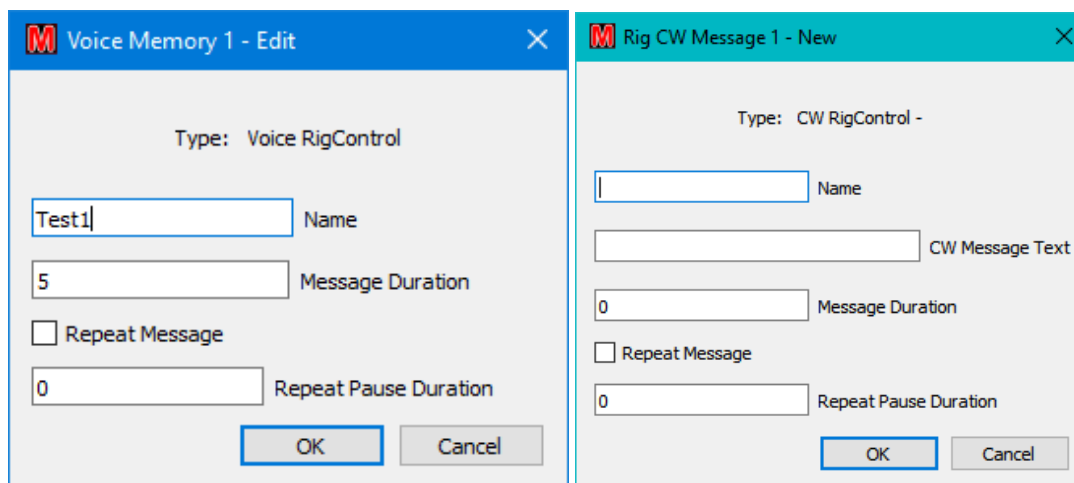

Figure 131 – Setup for RigControl connections
- **New:** Create a new user command (see Figure 131).